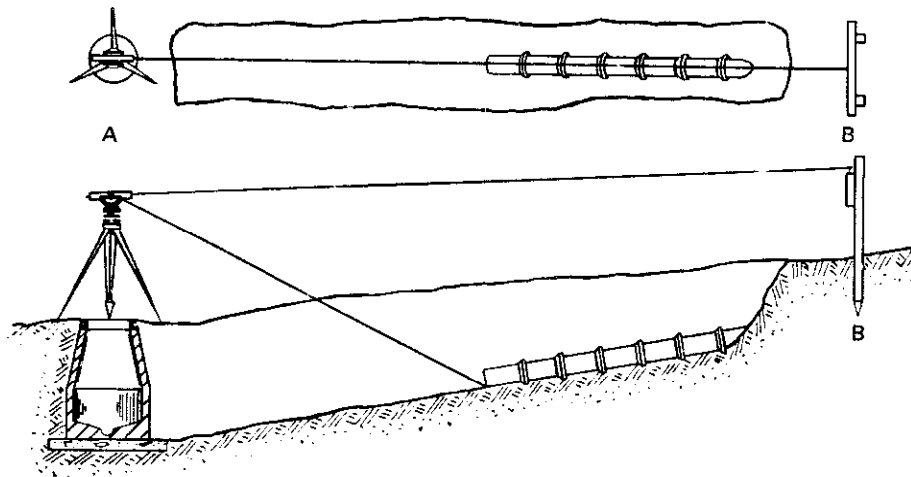

Fig. 5-51 Aligning drainage tile
7. Another use of the transit-level for alignment is shown in figure 5-51. Observe the following procedure: